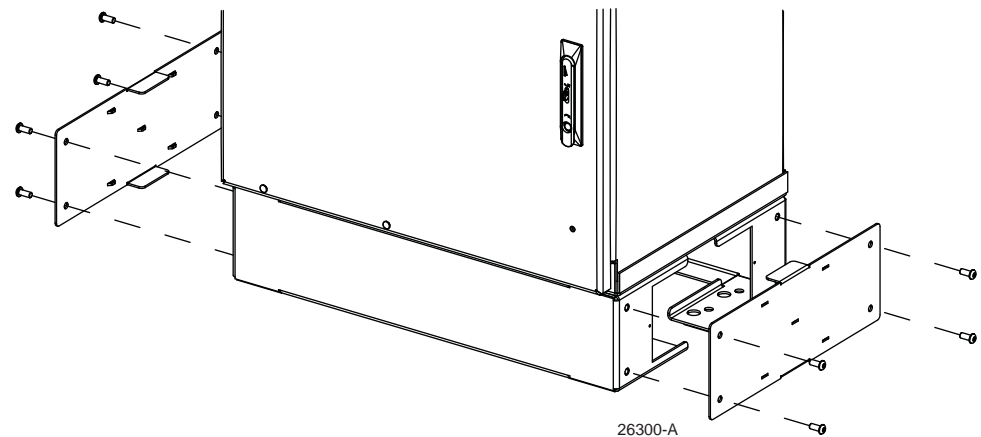

Figure 15. Removing Access Cover From Front of Ground Spacer/Riser
1. Use a 3/16-inch security hex-head wrench to remove the screws that secure the access covers to the left and right sides of the cabinet ground spacer/riser as shown in Figure 15.